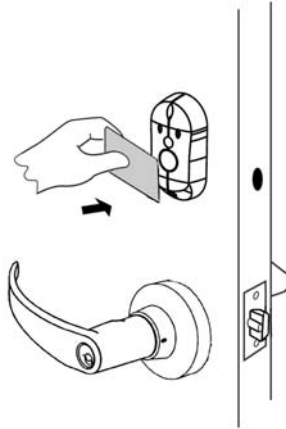

Figure 4-6 - Presenting a Proximity Card
- 4.3.1.1 Place the card flat to and within one-quarter inch of the upper part of the Proximity Reader (Figure 4-6). The reader sounder beeps.